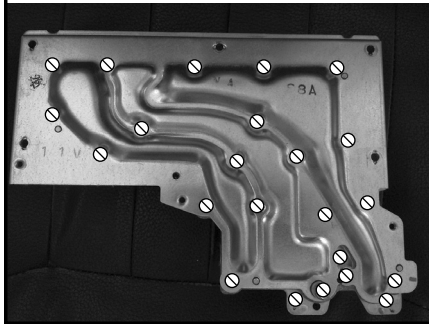

Figure 70.
- 8.3 Remove the screws that secure the manifold plate (Figure 70).
If necessary, refer back to Figure 70, page 58.